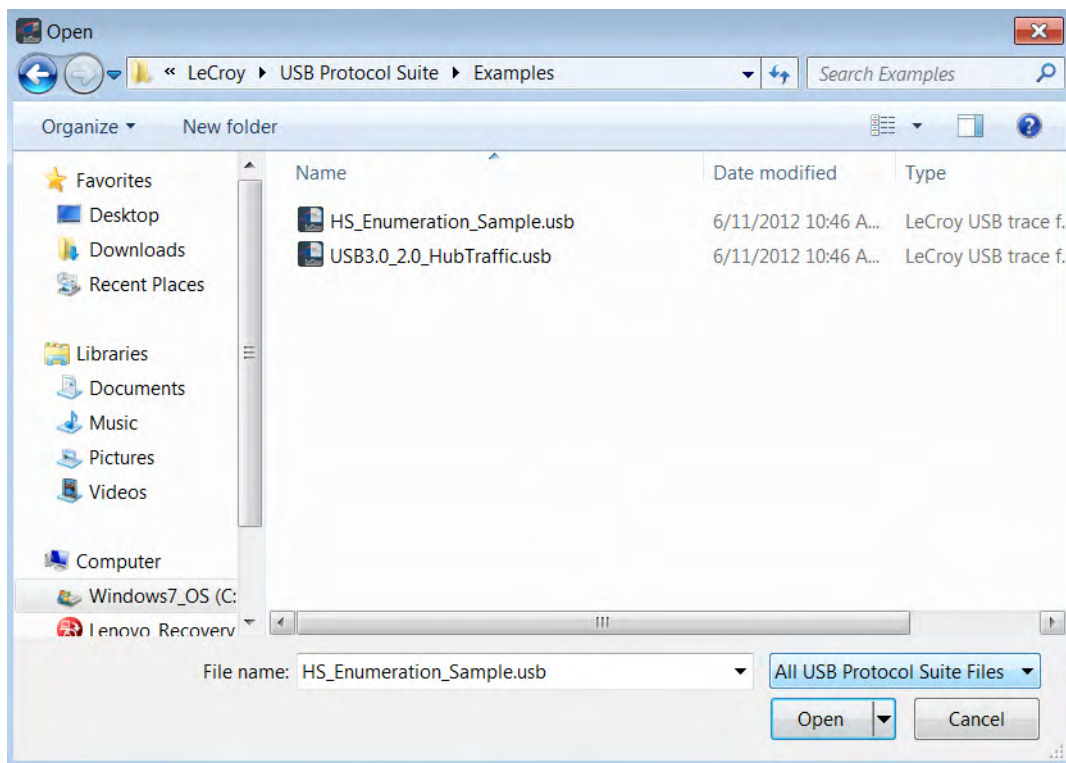

Figure 11.16: Open Dialog
1. Select **File > Open ...** from the menu to display the Open dialog (see Figure 11.16 on page 412):